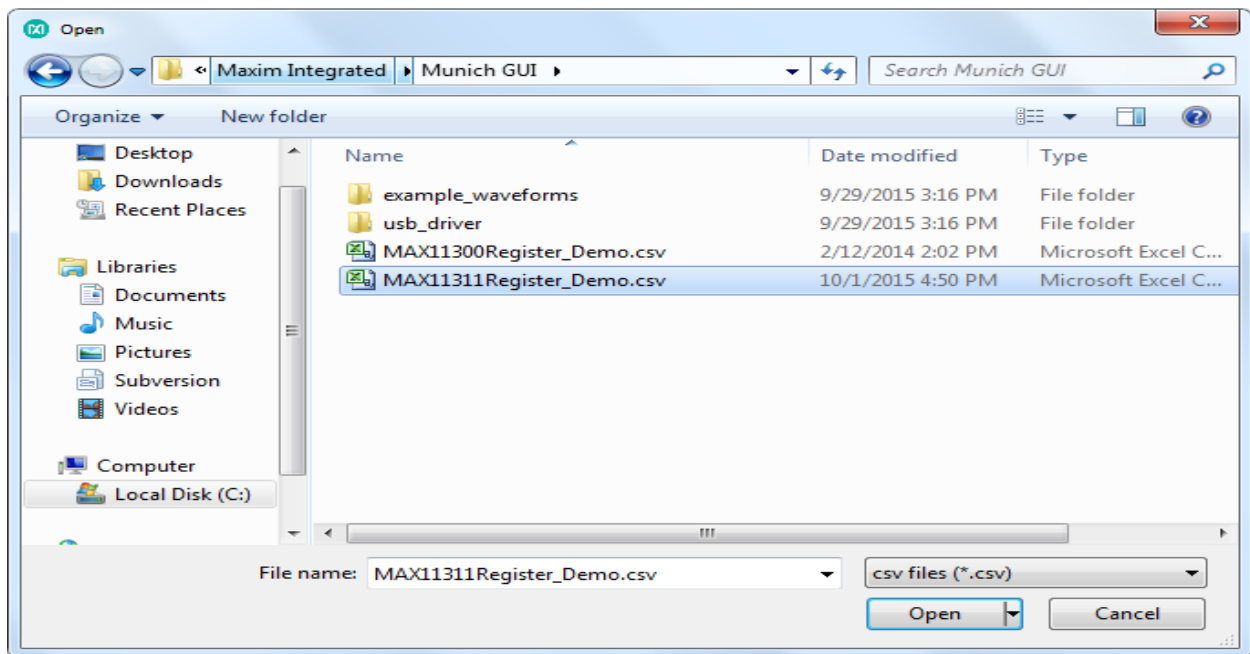

Figure 18. Register files.
4. Under **Configuration**, click on **Read from File** and select the register file MAX11311Register_Demo.csv as shown in **Figure 18**.